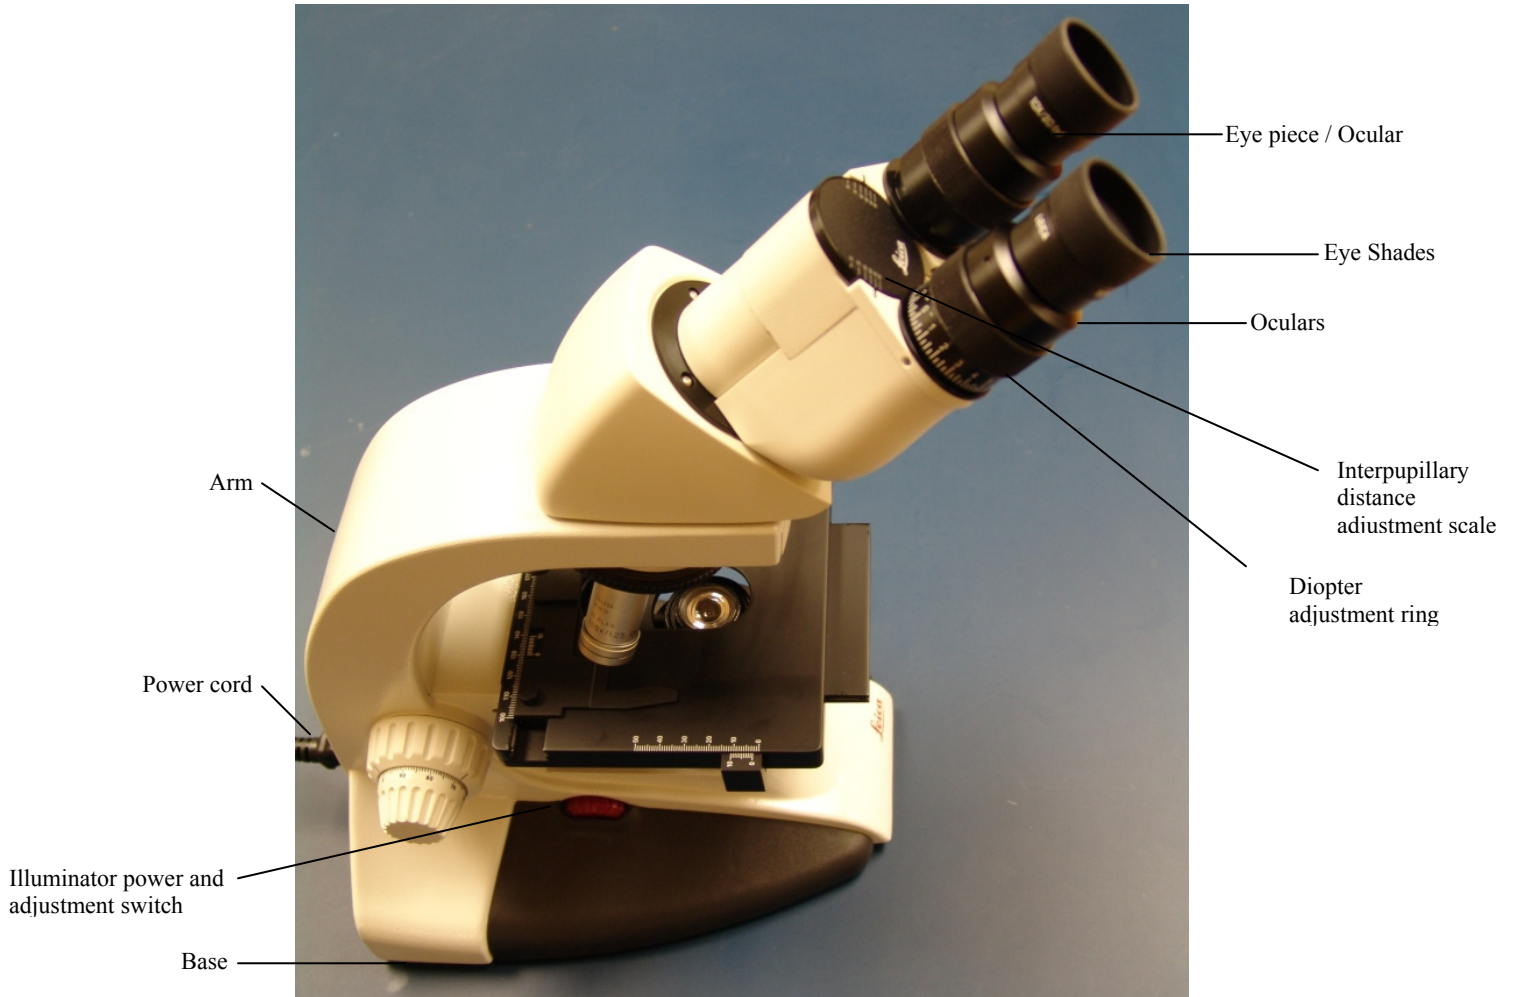

Figure 1: Leica DME microscope left side component view
- 8.1.3. Verify that the power cord is plugged into an appropriate power source if necessary. Refer to Figure 1.
- 8.1.4. Turn on illumination for the microscope by rotating the illumination power switch on the bottom left side of microscope by turning it towards the operator. Refer to Figure 1.
- 8.2.2. Adjust the eye piece to allow the operator to look through the eyepieces. Refer to Figure 1.
- 8.2.4. Looking through the left eye piece with your left eye only and adjust the diopter adjustment ring to focus the specimen. Refer to Figure 1.
- 9.1. Figure 1: Leica DME microscope left side component view